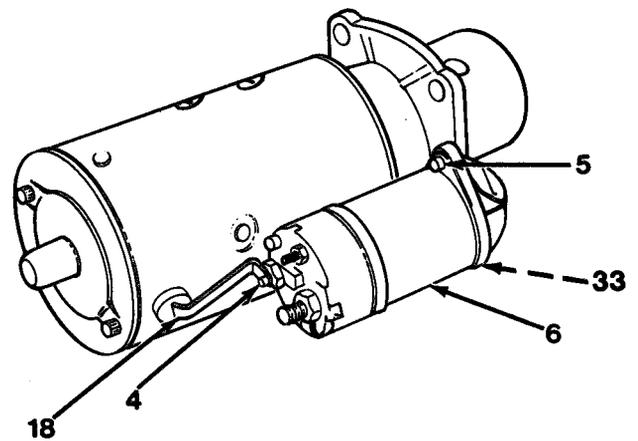

Figure 10-2
11. Install spring (33), starting motor solenoid (6) and two screws (5, Figure 10-2).
12. Connect field coil solenoid connector (18) and install switch screw (4).